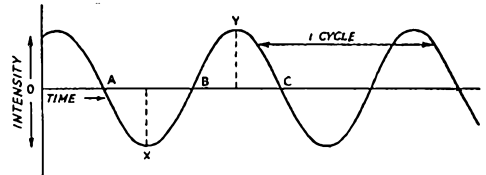
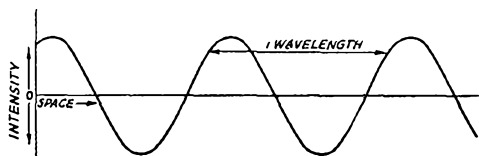

Fig. 1 — Sine-curve representation of intensity variations in a wave field with time, at a fixed observing point.
Fig. 2 — By changing the label on the horizontal axis, the sine curve can be made to represent intensity variations in space at a fixed instant of time.
Fig. 1 — Block diagram of proposed receiver layout at W6OVK. A dual i.f. amplifier, complete with a.m., f.m. and a b.f.o., will permit the desired i.f. amplifier to be connected to any one of the several front-end converters. Directional antennas for the various bands will be permanently connected to these converters.
Fig. 2 — Operation of an amateur station from inside a photography darkroom. The shack is next door to the darkroom as shown in (A) and contains a foot pedal-operated press-to-talk switch, a microphone and a speaker. A remote-local switch in the operating room cuts in the darkroom or ham shack control circuit as shown in (B). R_{y1} turns on the transmitter and R_{y2} cuts off the receiver when either S_1 or S_3 are closed.
Everyone who has done a little reading on radio knows that an electromagnetic wave in space consists of traveling fields of electric and magnetic force. The two fields are separate but not independent, and go through identical variations with time when viewed at a fixed point in space. In the case of a "pure" wave, or one involving only a single frequency, these time variations follow a sine curve; hence we draw (as in Fig. 1) the same curve to represent them that we use to show the variation with time of an alternating current. In the case of the alternating current, the ordinate above the zero axis commonly would be labeled
As applied to a wave, Fig. 1 says that the field (either one, electric or magnetic) exerts its force in some unspecified direction whenever the curve is above the axis and that this direction is reversed whenever the curve is below the axis. The curve does not show the *actual* direction; it has no means of doing so. By definition, the direction of an electric field of force is the direction in which a small positive charge would move when placed in the field; similarly, the direction of a magnetic field is the direction in which a small north pole would move in the field.
By changing the label on the horizontal axis from "Time" to "Space," as in Fig. 2, we can get a different interpretation from the same curve. Now we assume that instead of making our observation at a fixed point in space and letting time run on, we take an instantaneous snapshot of the intensity variations in the field as they are distributed along a line parallel to the direction in which the wave is moving. If we could make time stand still while we moved along such a line measuring the field intensity, the value of the field at any point along the axis would be proportional to the height of the curve above or below the axis at that point. Again we should find a periodic reversal in direction. However, the curve merely says that the direction reverses; it does not say what the direction is. The distance between any two points having the same direction and intensity is equal to the wavelength of the wave, as shown on the drawing. But obviously the curve does not give an actual picture of the wave — no more than it did with the different label in Fig. 1.
tion, which is the direction of the line itself. The magnetic lines surround the conductors of the parallel line, and form concentric circles between the parallel line, and form concentric circles between the conductors of the coaxial line; they are everywhere perpendicular to the electric lines and to the direction of propagation. This is shown in Fig. 4. The intensity of the fields varies along the line at any instant just as in the case of the space wave whose intensity-space variation is shown in Fig. 2, and the intensity varies with time at a given point as shown in Fig. 1.
A simple graphical approach to this requires still another method of depicting the wave. Suppose that the sine curve of Fig. 2 showing the space distribution of the field intensity at a given instant is imagined to exist in three dimensions, resembling corrugated paperboard or a corrugated tin roof. Then Fig. 2 is a view of the edge, and a rough indication of the top view of the curve is given by Fig. 8, where a thin line represents a null, a solid heavy line a positive maximum and a dashed heavy line a negative maximum. Keep in mind that the lines in this method of representation are not lines of force (that is, they do not show the direction of the field) but simply mark the regions in space where maxima and nulls exist. We are looking down on the wave in much the same way that we can look down on ripples in a stream from the vantage point of a bridge. The direction of travel is perpendicular to the lines of maxima and minima, just as the direction of travel of water waves is perpendicular to the "ridges" in the water. The distance between any two adjacent lines in the direction perpendicular to them is a quarter wavelength, between any two alternate lines a half wavelength, and so on.